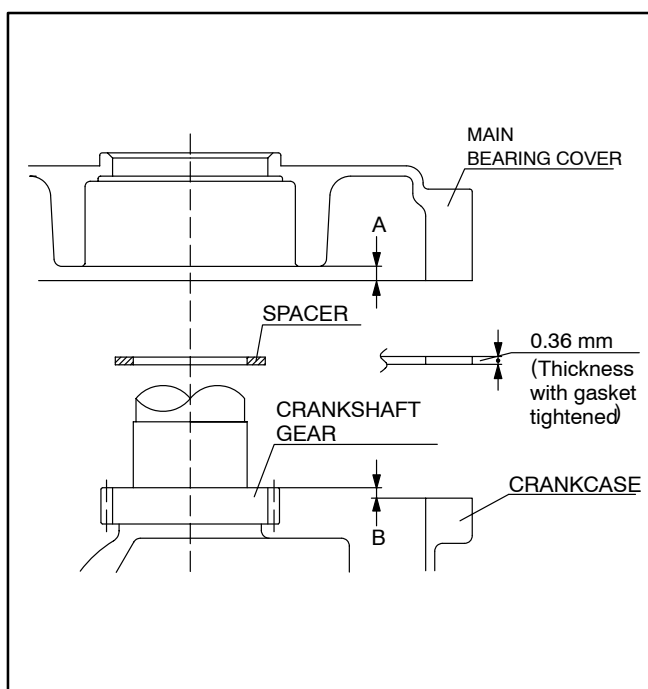
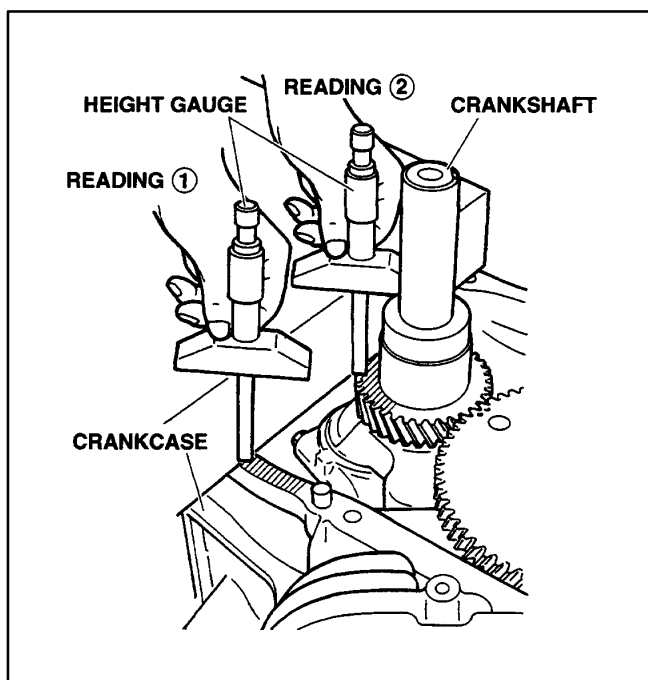

FIGURE 9-12. CRANKSHAFT END PLAY
FIGURE 9-13. CRANKSHAFT END PLAY
1. Measure and record the A and B distances (Figure 9-12). Figure 9-13 shows a method for determining the B distance. B is equal to Reading 1 minus Reading 2.